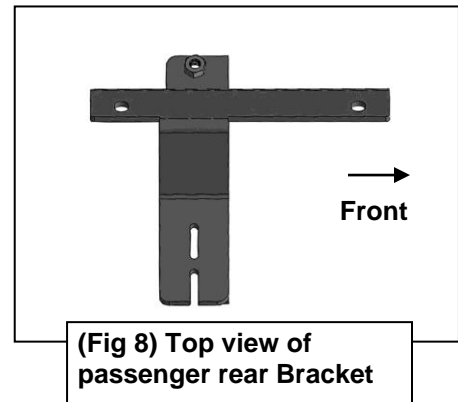

**Fig 6**
- Next, remove the rubber plug in the 5th (next) hole along the body panel. Repeat **Steps 2—3** to install the center Bracket, **(Figures 6 & 7)**.
- Continue along the body to the 8th and 9th, (last two along body), rubber plugs, **(Figure 6)**. Repeat **Steps 2—3** to install the passenger side rear Bracket, **(Figures 8 & 9)**. **NOTE:** Rear Brackets are offset towards the rear of the vehicle, **(Figure 8)**.